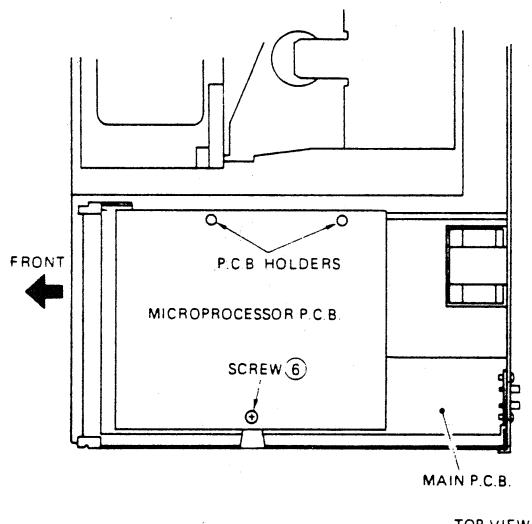
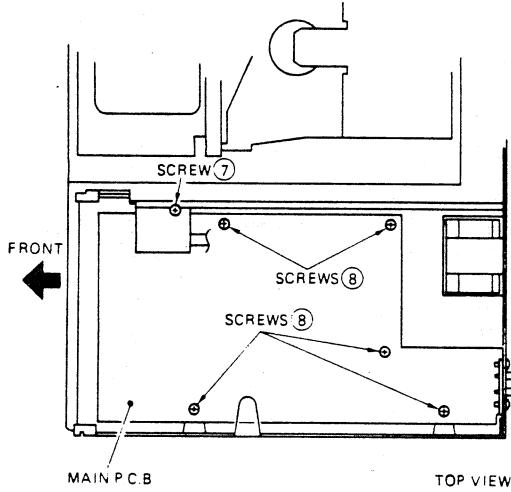

Fig. 4
Fig. 5
- 1) Remove screw ⑥ from the P.C.B. If the P.C.B. is raised up at the screw ⑥ side the main P.C.B just under the microprocessor P.C.B can be checked and adjusted.
- 3) Pull 2 P.C.B. holders and remove the P.C.B. (Fig. 4)
- 1) Remove the power switch fixing screw ⑦ and remove the power switch.
- 4) Remove 5 P.C.B. fixing screws ⑧. (Fig. 5)
- 1) Remove the microprocessor P.C.B. and main P.C.B. (Fig. 4, Fig. 5)